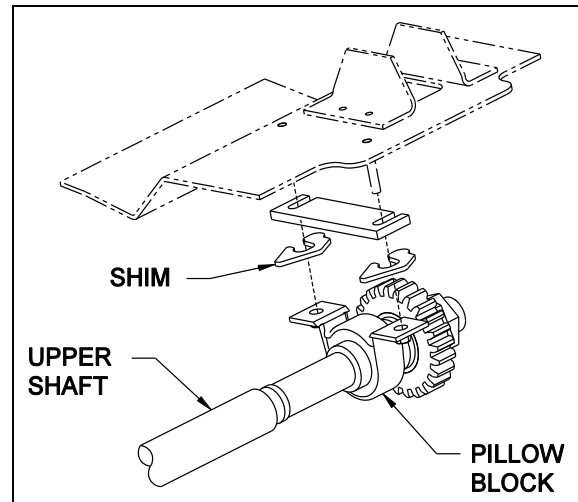

FIGURE 8 : UPPER SHAFT PILLOW BLOCK
4. From inside the vehicle, loosen the upper shaft pillow block nuts and remove the shims behind the pillow blocks. Keep note of the shims position (figure 8).
6. Reinstall the upper shaft pillow block shims in their original location (figure 8). Add or remove shims to leave no clearance between the pinion and the rack. Tighten the pillow block nuts.